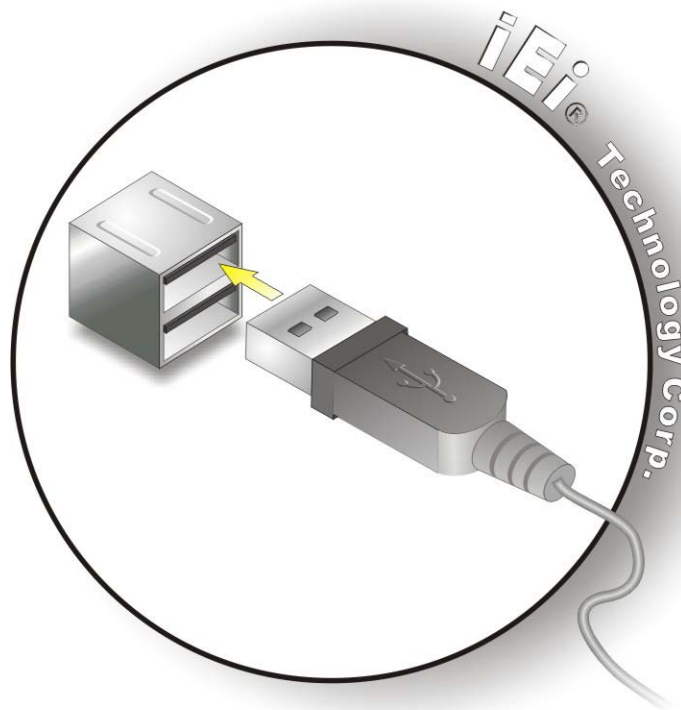

Figure 4-21: USB Device Connection
Step 2: **Align the connectors.** Align the USB device connector with one of the connectors on the bottom panel. See **Figure 4-21**.